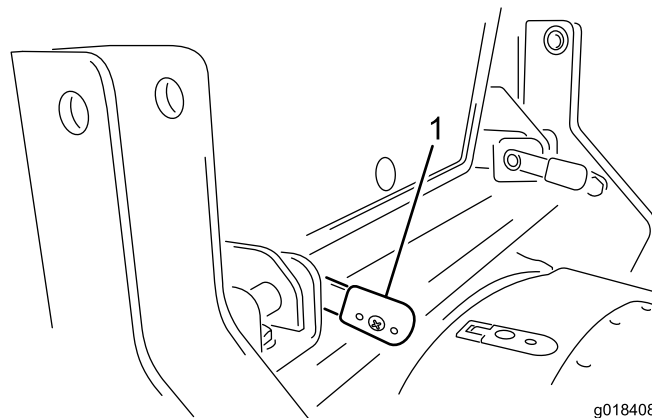

Figure 16
3. When the levers are fully inserted, rotate them backwards to lock them in position (Figure 16).